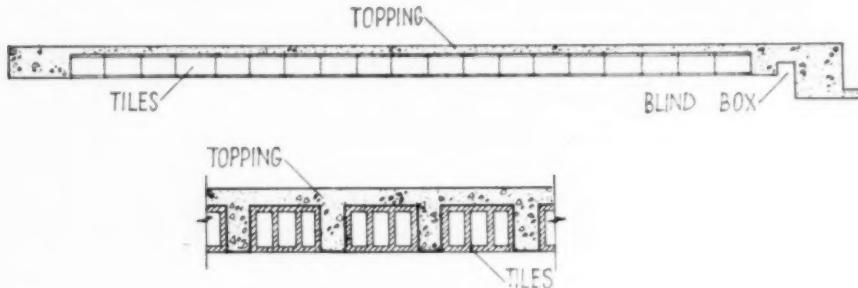

Fig. 5.
**HOLLOW-TILE FLOORS.**—In many classrooms it is desirable to have shallow beams or no beams at all, and the problem of achieving a beamless floor economically is worth considerable thought. In spite of prestressed concrete, the writer has found that hollow-tile floors spanning from front to back of the classrooms are economical and were used at the school at Cubitt Town (Fig. 5). With hollow-tile floors with in-situ ends it is feasible even to reduce the thickness at the front and back locally to provide space for a blind-box. This hollow-tile floor had the disadvantage of requiring shuttering and steel, neither of which was readily available at the time. In some schools the writer has used proprietary precast floors, notably at Blackwell Secondary School, Middlesex.